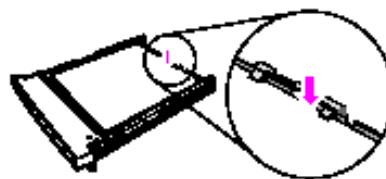

Figure 20. Adding media
6. Add the media and make sure it is flat in the tray at all four corners. Keep the media below the height tabs on the paper length guide in the rear of the tray as shown in Figure 20.